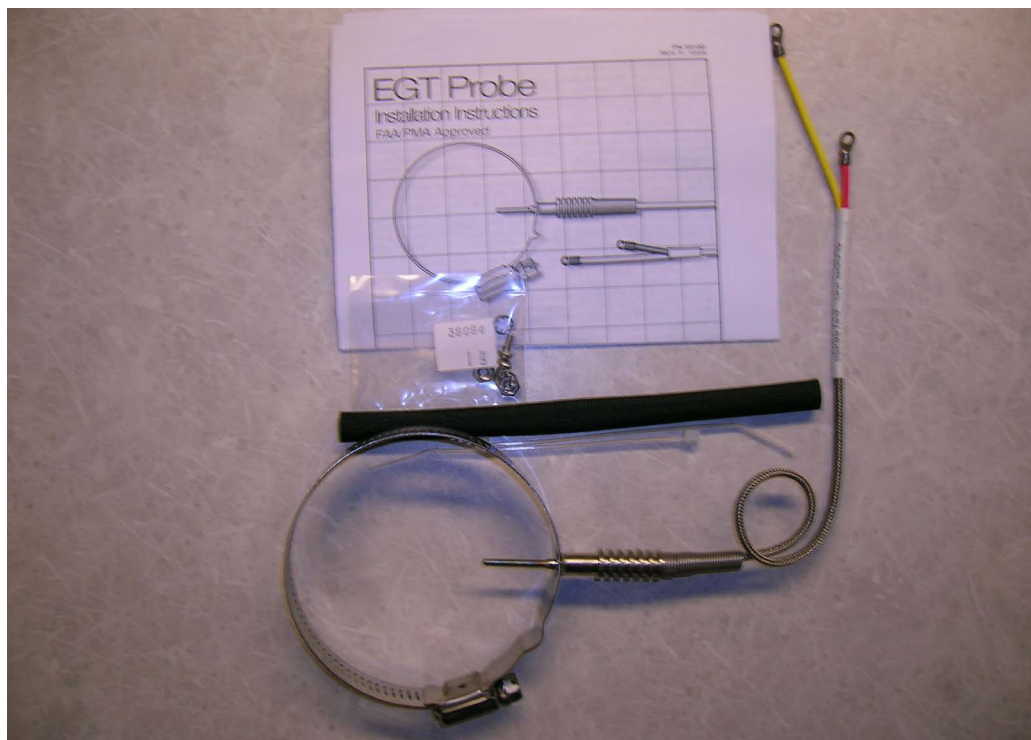
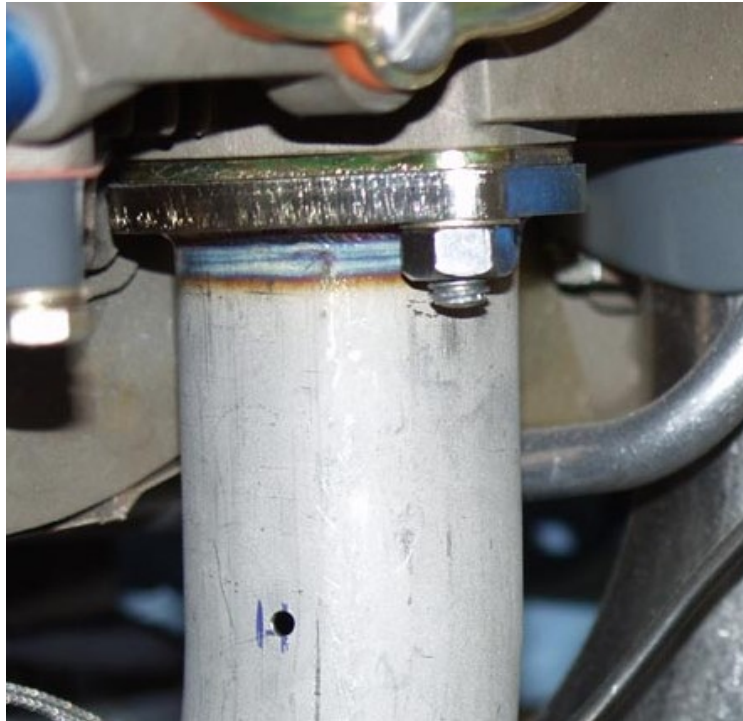
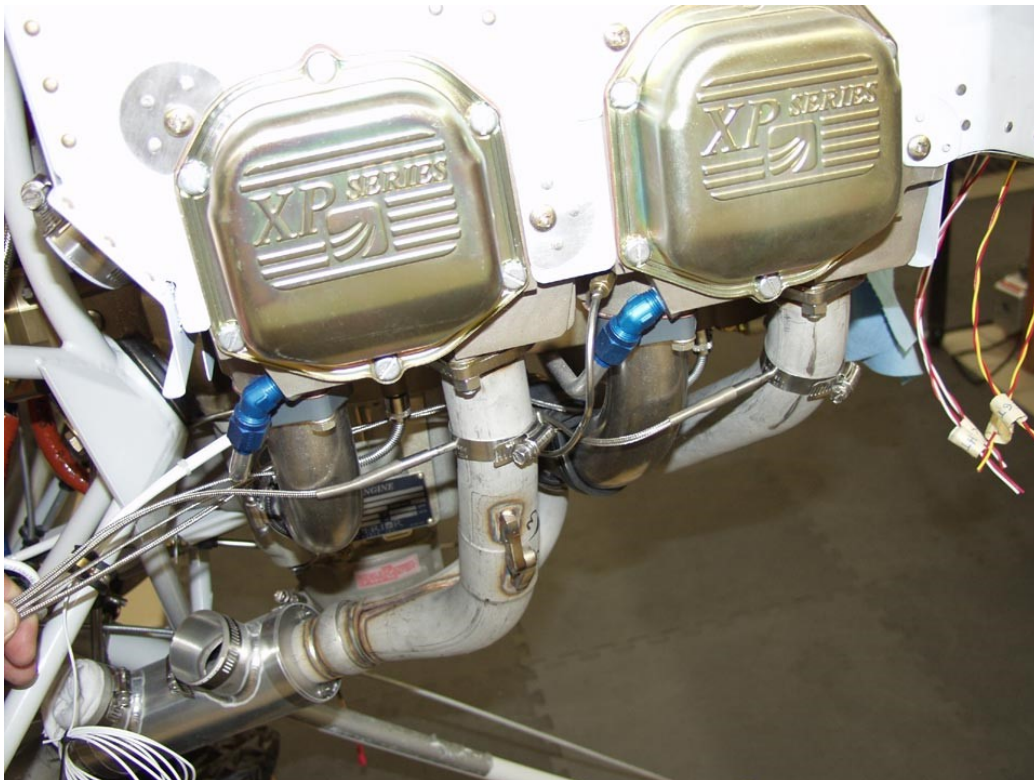

Figure 21-6 EGT Package
Figure 21-7 Exhaust Pipe Drilled
Figure 21-8 Installed EGT Probe Orientation
Perform the following steps and refer to Figure 21-6, Figure 21-7, and Figure 21-8 to install an EGT sensor.
1. EGT probes (Figure 21-6) should optimally be mounted a minimum 2 inches and a maximum of 4 inches from the cylinder exhaust port flange on a flat portion of the exhaust tube. For highly supercharged engines, the EGT probe should optimally be mounted a minimum 5 inches and a maximum of 7 inches from the cylinder exhaust port flange on a flat portion of the exhaust tube. To maintain consistent readings across cylinders, all probes should be mounted an equal distance from the exhaust flanges.
2. Carefully center punch the probe hole locations so the external portion of the probe does not interfere with any other parts of the engine or cowling (Figure 21-7). It may be desirable to angle the probes towards the rear of the engine to allow efficient wire routing back to the cockpit. If angling the probes towards the rear of the engine, take care to make sure that sufficient clearance is provided to service the spark plugs.
4. Connect the EGT probes to the thermocouple extension wire. Provide strain relief for the assembly by either fastening the probe leads to the valve covers with a clamp, or by tying the extension wire to the intake tubes or other suitable location. A finger-sized loop should be provided to allow appropriate strain relief, and care should be taken to make sure that no chafing of the wires occurs. See Figure 21-8 for an example of an installed EGT probe.